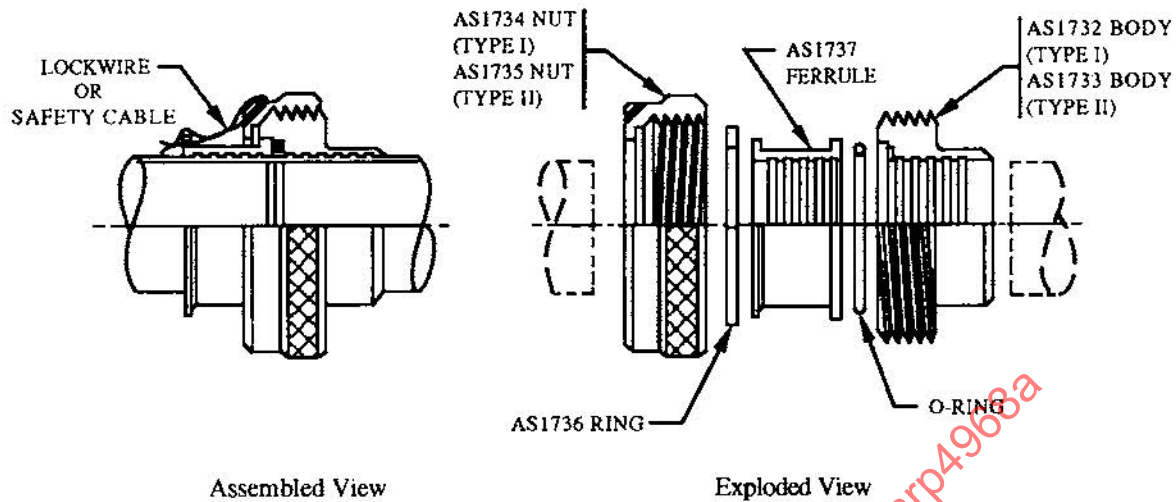

FIGURE 1 - Assembly of Rigid Type Coupling (AS1731)
3.5.1 Rigid Couplings (AS1730): The rigid coupling is illustrated in Figure 1.